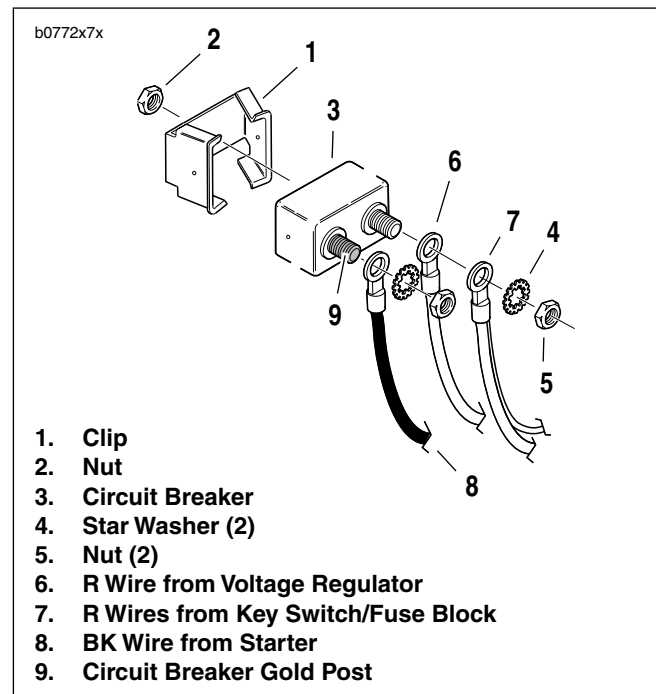

Figure 7-73. Circuit Breaker
See Figure 7-73. The 30 amp main circuit breaker is on the frame beneath the fuel tank.
4. See Figure 7-73. Loosen nut (2) on frame to free circuit breaker (3) from clip (1).
5. Remove nuts (5), star washers (4) and wire leads (6, 7 and 8) from circuit breaker studs.